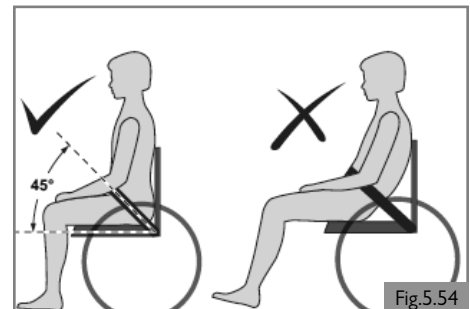

Fig.5.54
3. Generally, the lap belt should be fixed so that the belt sits at an angle of approximately 45° (Fig. 5.54), and when correctly adjusted should not allow user to slip down in the seat.